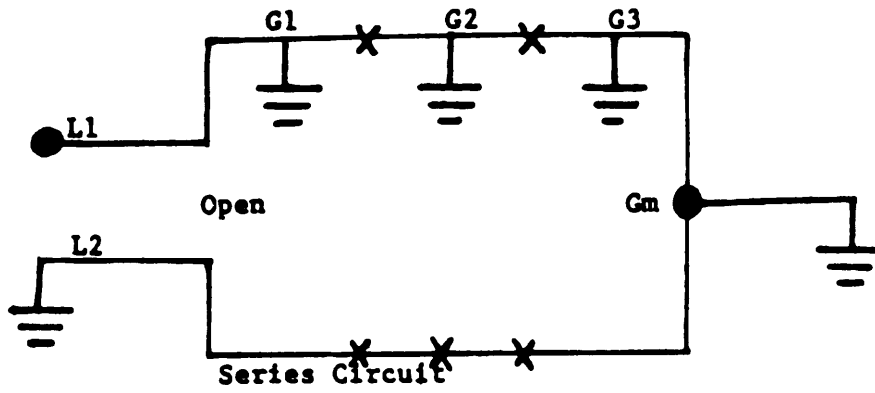

Figure 3-5. Open Circuits in Both Legs, Test Example.
11. Where there are opens between L1 and Gm as well as between L2 and Gm (in both halves of the loop), ground L2, leave Gm in. (See figure 3-5.)